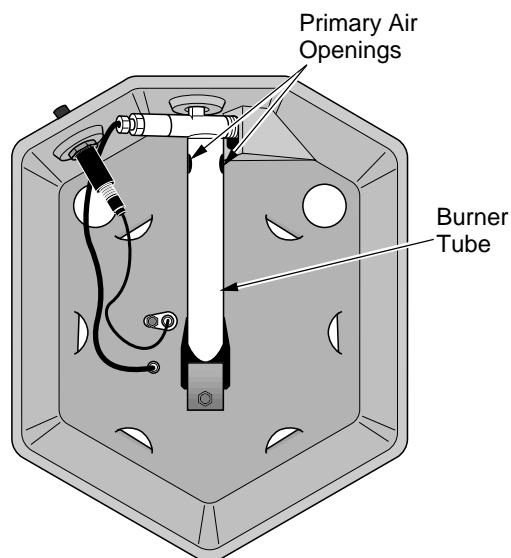

Figure 5 - Bottom View of Heater
To check for correct burner flame, look through the ventilation holes in the top of the heater to see the burner flame. The burner flame should be mostly blue with slight yellow coloring on the ends. If the burner flame is mostly yellow, the primary air openings on the burner tube under the heater base may be blocked (see Figure 5).
2. Turn heater over to locate the primary air openings on the burner tube (see Figure 5). Remove any debris blocking the primary air openings.